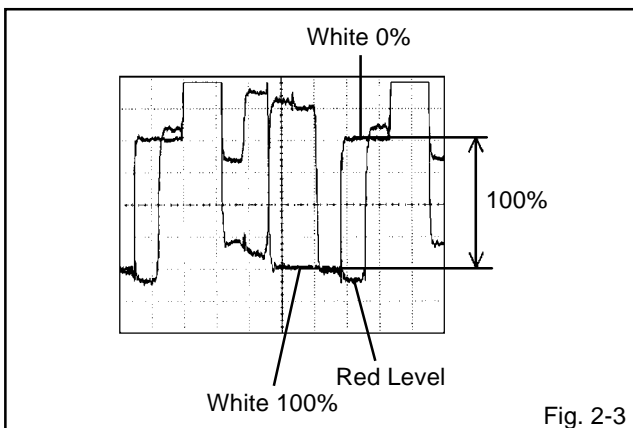

Fig. 2-3
6. Press the VOL. UP/DOWN button on the remote control until the red color level is adjusted to  $110 \pm 10\%$  of the white level. (**Refer to Fig. 2-3**)